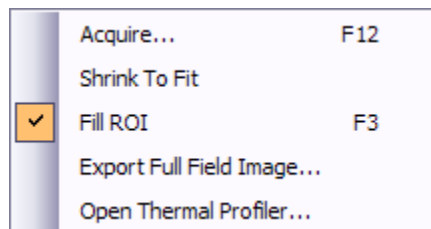

Figure 2.9 Camera Window Context Menu
- Right-click on the Camera window (inside the ROI) to bring up a context menu (see **Figure 2.9**) that contains the Acquire... command. Click Acquire... or, alternatively, press the **F12** key.